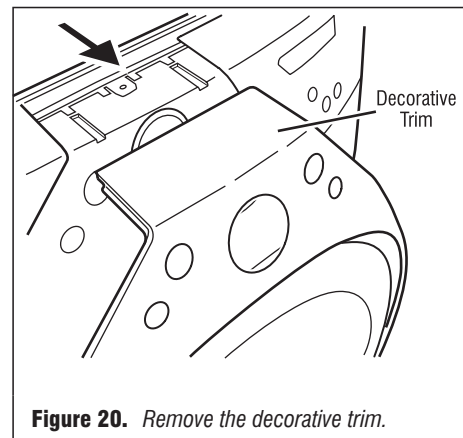

Figure 20. Remove the decorative trim.
3. Gently remove the decorative trim that surrounds the door and upper console by unsnapping it from the dryer. See figure 20.